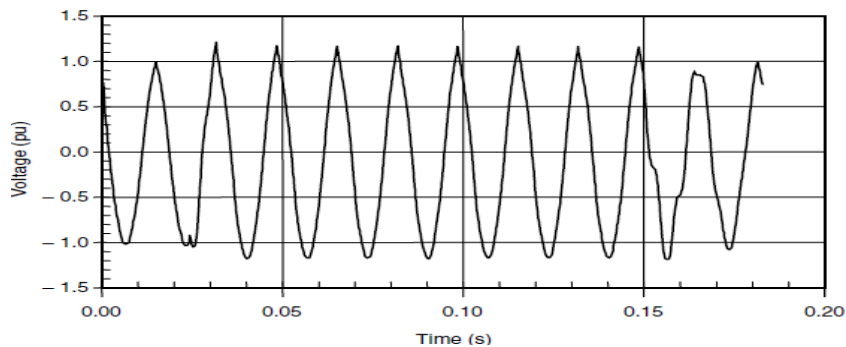

Fig 2.8 Instantaneous voltage swell caused by an SLG fault.
- Fig 2.8 illustrates a voltage swell caused by an SLG fault.